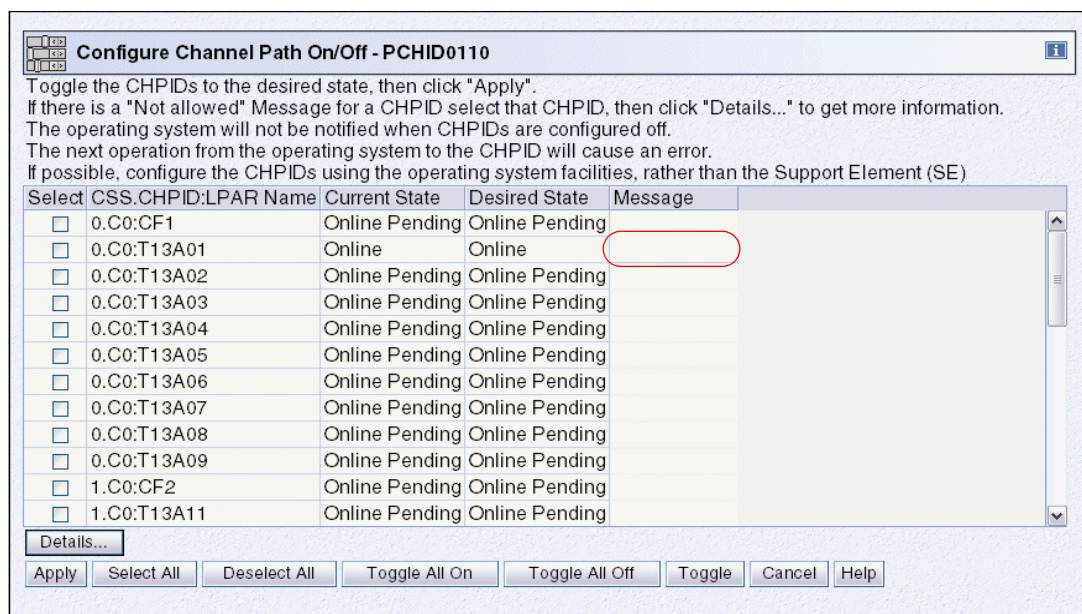

Figure 7-8 Configure Channel Path On/Off
- Click **Yes** if the reconfiguration is to proceed. This removes the last timing link lock for the CHPID and returns control to the Configure Channel Path window. The Not Allowed message no longer displays in the Message column (Figure 7-8).